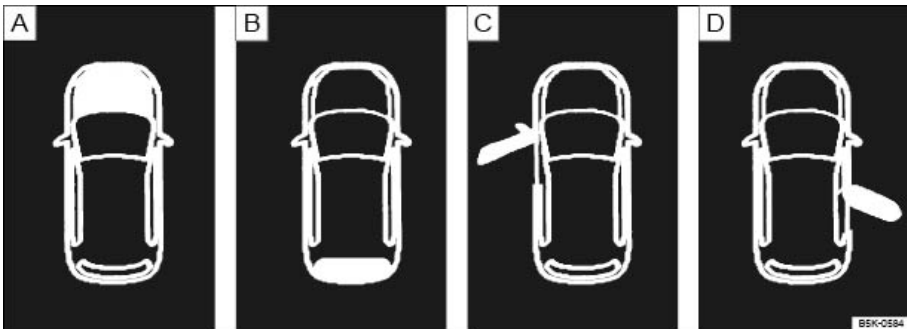

Fig. 11 In the instrument cluster display: A: Open engine hood, B: Open rear hatch, C: Open front driver side door, D: Open rear passenger side door.
- Open doors, engine hood, or rear hatch ⇒ fig. 11